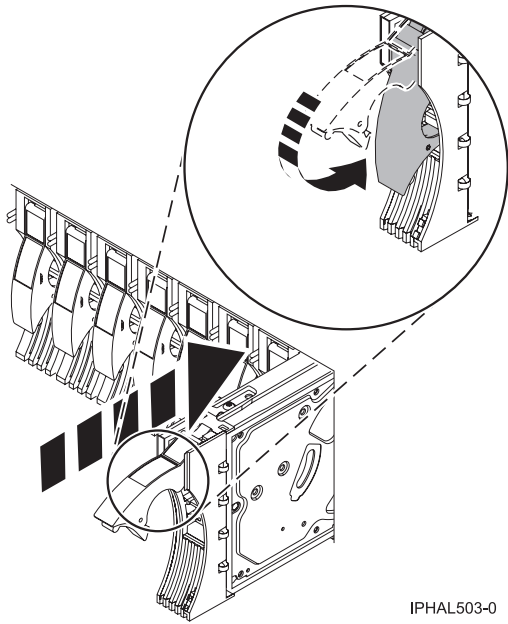

Figure 33. Installing a disk drive in a model
5. Install the disk drive as shown in Figure 33 on page 44.